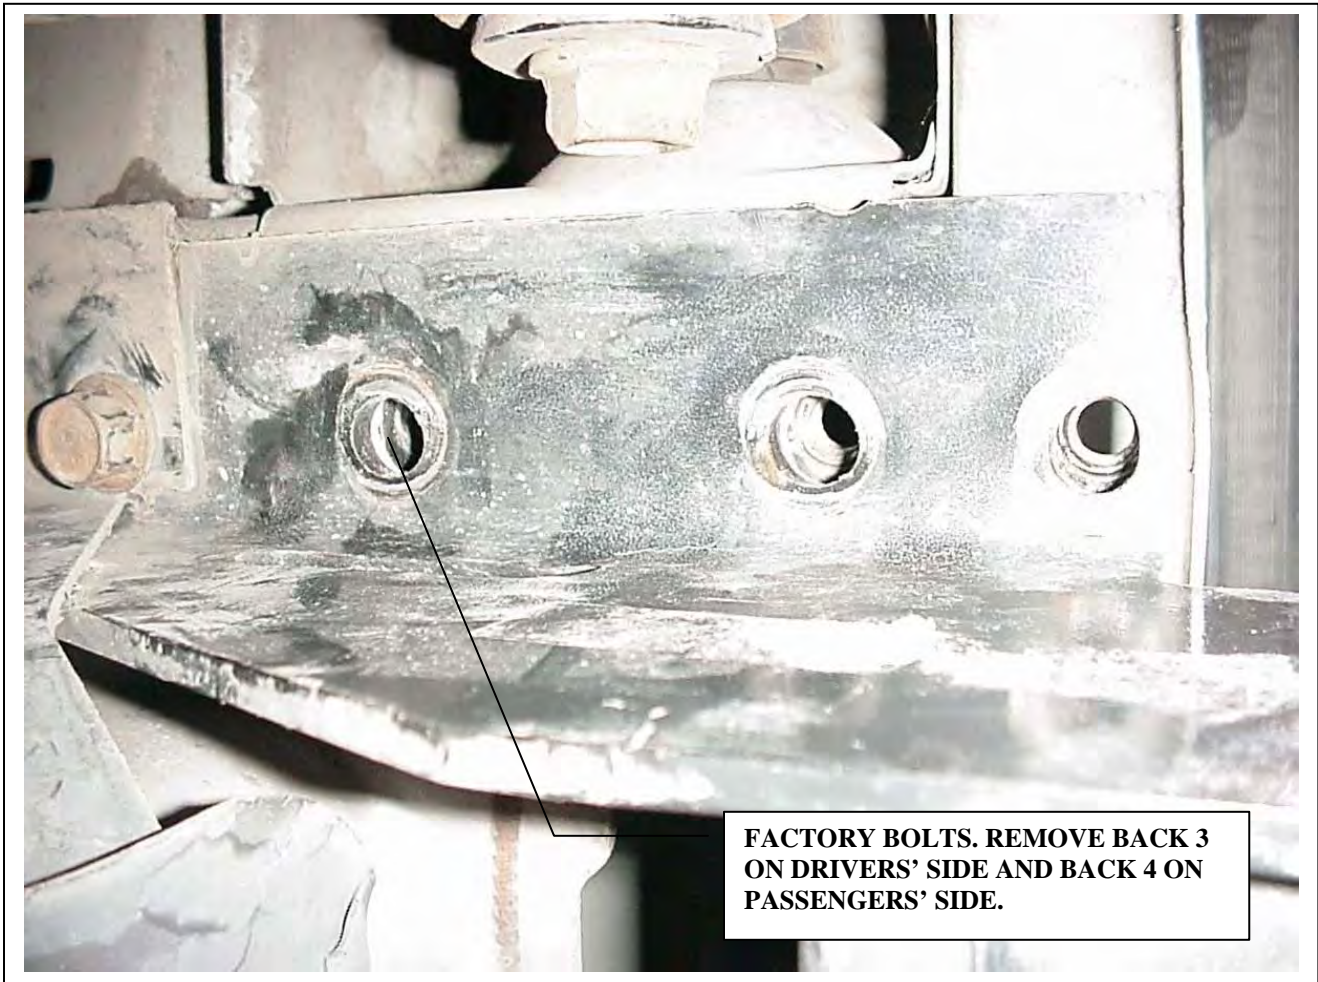

Figure 2, Diagram of Sub-frame and Bolt locations
3. Once the square holes are cut, remove the back three bolts on the bottom of the sub-frame on the driver's side and back four bolts of the sub-frame on the passenger's side. **See Figure 2.** Some vehicles may not have the factory nut plates. If it does not have them, use the ones supplied in the bracket kit. Use the three-nut plate for the driver's side and the four-nut plate for the passenger's side.